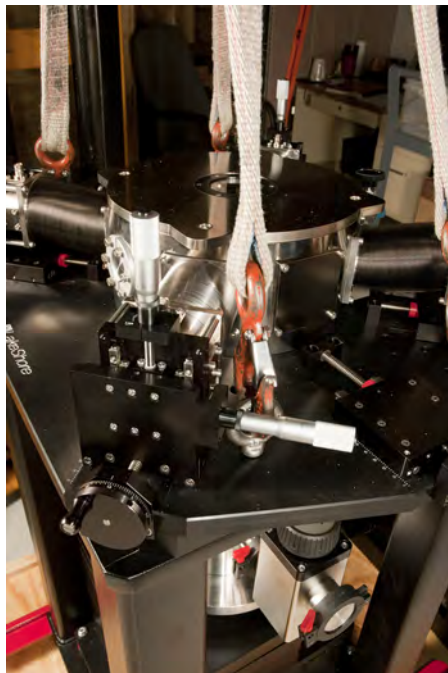

FIGURE 3-4 Use lifting equipment if the probe station must be moved after it is uncrated
The CRX-VF has four lifting eyelets attached to the probe station table for lifting the probe station off the crate base (FIGURE 3-4).
7. Using lifting equipment, lift the probe station off the crate base (FIGURE 3-4).